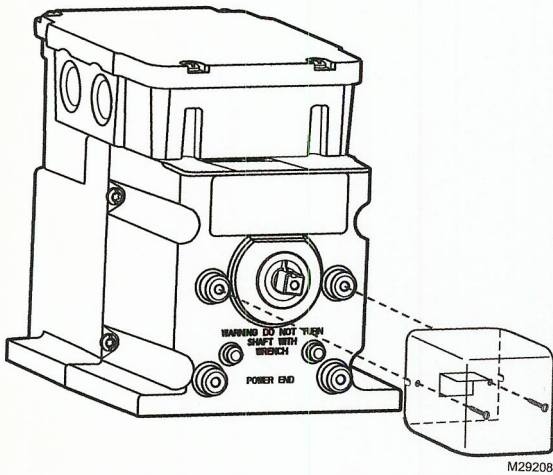

Fig. 1. Mounting the Q181 on M9185 or M9186 style modutrol motor, or any motor with bosses.
Mounts directly on master motor. Refer to Fig. 1 and 2.
- Mount the Q181 on the motor. The two mounting holes in the Q181 line up with the two mounting holes on the end of the motor, horizontally in line with the shaft. Mounting screws may be held in the back of the case with the fiber washers during installation. See Fig. 1 and 2.